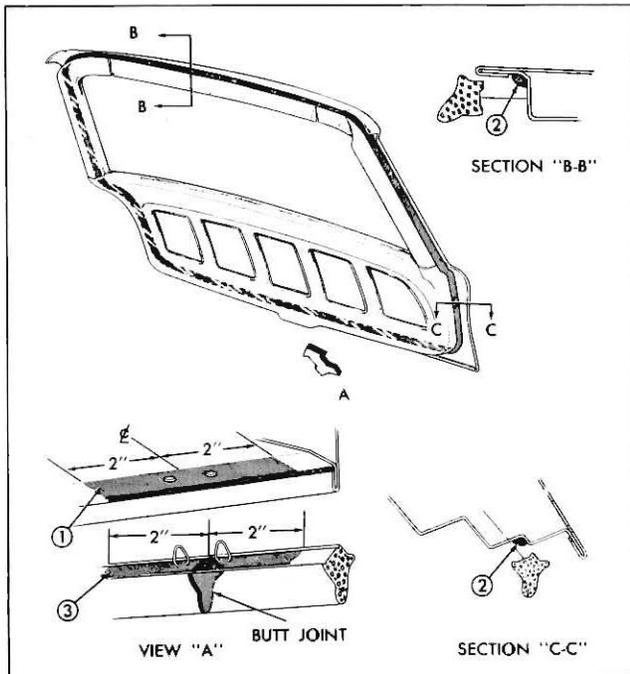

Fig. 8—Back Door Weatherstrip Installation
type) to the door panel surface contacted by the weatherstrip (see "1" in view "A", Fig. 8).
4. Apply a continuous bead of weatherstrip adhesive (black) in the corner of the rabbet around the inner panel, as shown at "2" in Sections "B-B" and "C-C" of Fig. 8.
5. For a distance of two (2) inches on both ends of weatherstrip, apply a coat of weatherstrip adhesive (neoprene type) to the weatherstrip surface which contacts the door panel as indicated at "3" in view "A" of Fig. 8.
7. Apply weatherstrip adhesive (neoprene type) to butt ends of weatherstrip and cement ends together to form an even butt joint (see view "A", Fig. 8).